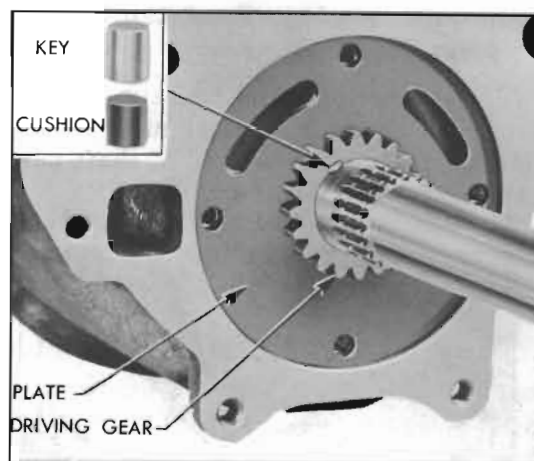

Figure 5-98—Oil Pump Driving Gear and Key Installed
2. Install oil pump drive key cushion (rubber) and drive key in output shaft, then install driving gear to engage the key. Install old gear in same position as before removal—install a new gear either way. See Figure 5-98.